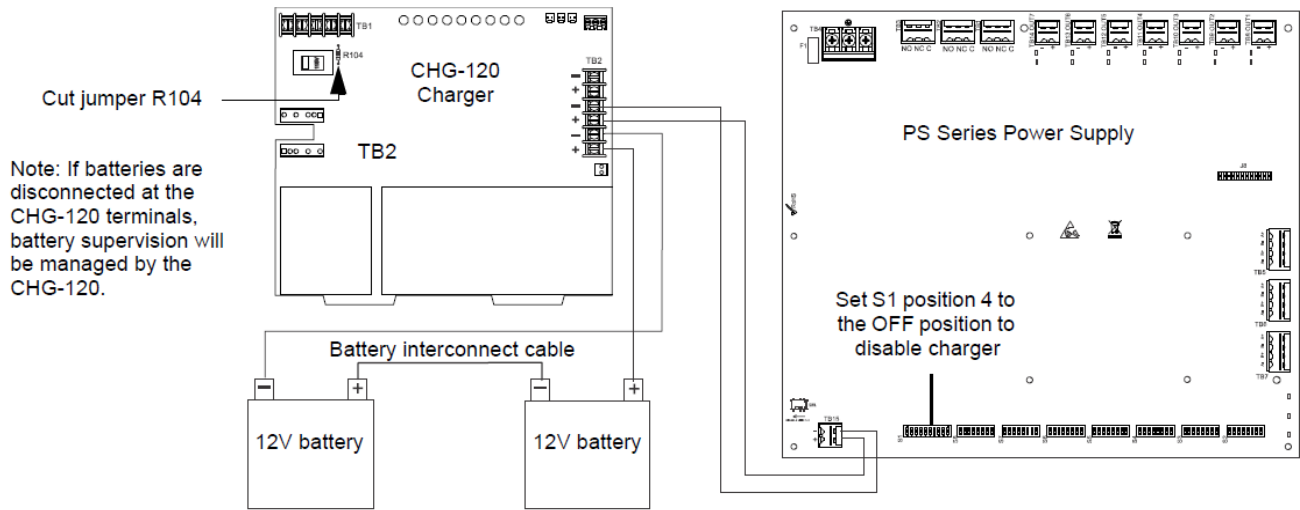

Figure 2-9: Connecting the Power Supply to a CHG-120 Charger
02. Connect the battery cables between TB15 (+ and –) on the power supply and the CHG-120 charger output circuit (TB2: Out 1+ and Out 1–) as shown in Figure 2.9. Be certain to observe polarity.